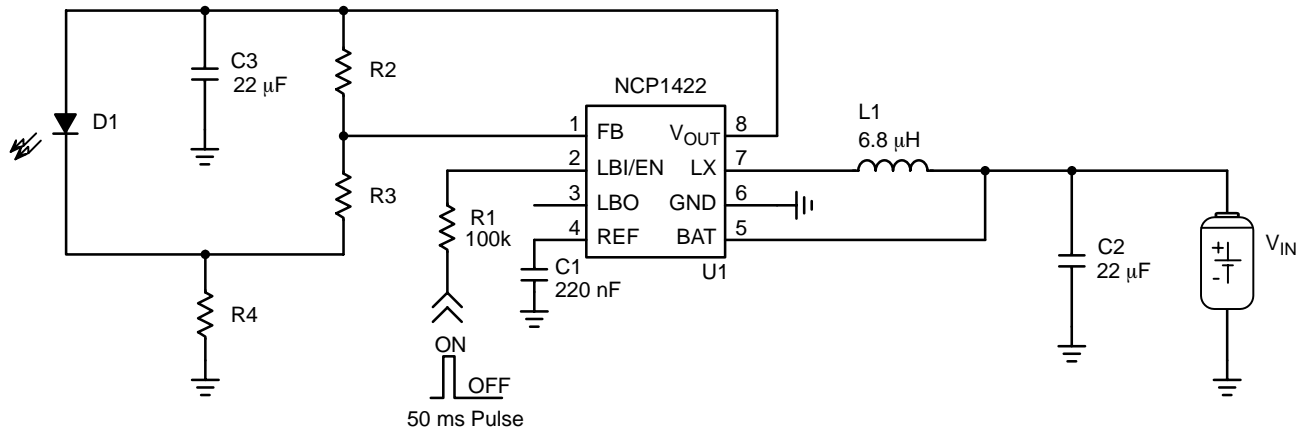
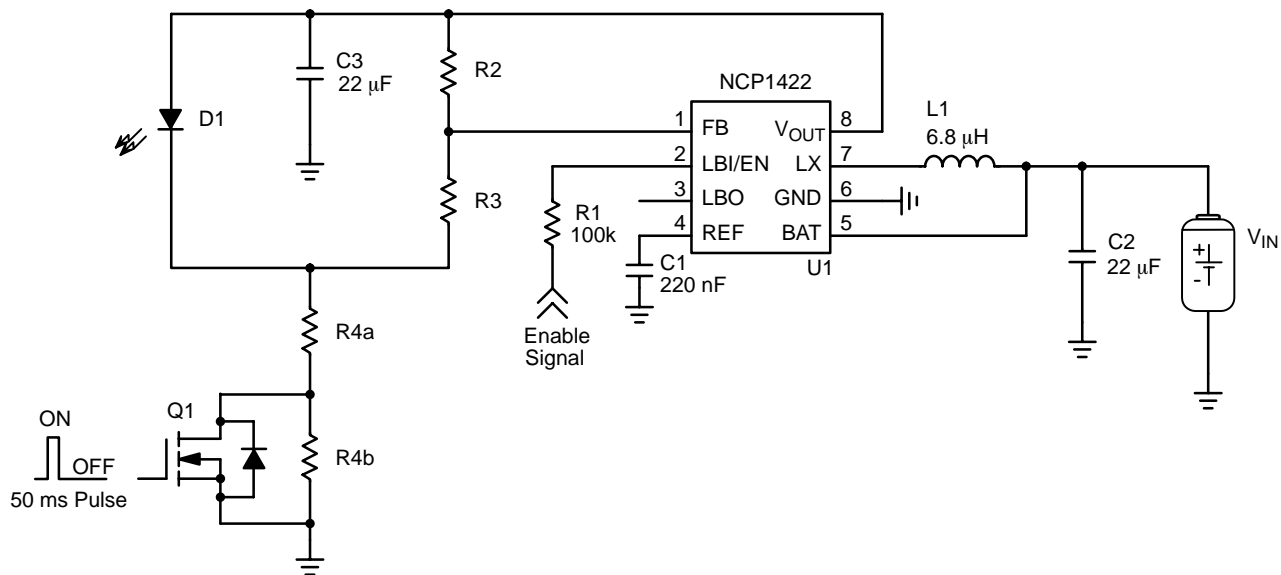

Figure 1. NCP1422 Configured to Drive High Current White LED
Figure 5. 200/600 mA Focus/Flash Application
The attached design illustrates how the NCP1421/2 boost converters can be configured as a current regulator for biasing high current white LED's. Typical boost converters, such as these, have a reference voltage of 1.2 V. Since this is a current sourcing application, the more straightforward approach of directly sensing the boost converter's reference voltage ( $V_{ref}$ ), which is 1.2 V, across a sense resistor would dissipate too much power at the currents required to drive high-power White LED's. Also, the lot-to-lot forward voltage variation is too high to simply regulate at a fixed voltage with a current limiting resistor. Therefore, this paper describes a technique that reduces both the power loss in the sense resistor and the lot-to-lot variation effect of the LED. This applications shows two implementations of this concept. Figure 1 shows a simple boost converter configured at various current levels and uses the Lumileds LXHL-WW06 white LED. Figure 5 shows a circuit that switches between a low current for focus lighting and high current for the flash and uses the Lumileds LXCL-PWF1 white LED.
profile, small sized inductor and output capacitor to be used. Also an integrated disconnect switch provides "true cutoff" by isolating the output from the battery during shutdown. The NCP1421 comes in the 3x5 mm Micro-8 package, and the NCP1422 comes in the 3x3 mm DFN package. Because of these features the NCP1421/2 are well suited to provide current regulation for biasing high current white LED's in portable flash applications. Figure 1 illustrates this circuit.
Figure 1 shows a typical circuit which, with the Bill of Materials shown in Table 1, can provide LED currents of 200, 600 and 800 mA. The 200 mA design uses the NCP1422 because of its smaller footprint, and the 600 mA and 800 mA designs use the NCP1421 and NCP1422 respectively to showcase the load current limits of each device.
Finally, Figure 5 shows a Focus/Flash application where the NCP1422 drives one LED at 200 and 600 mA. An
**Table 1. Bill of Materials for Figure 1**
**Table 2. Bill of Materials for Figure 5**